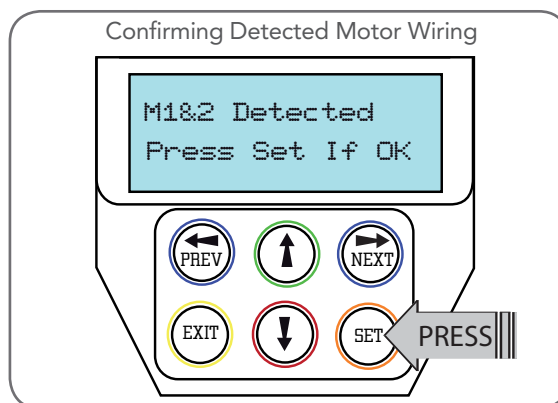

Fig H.3
- DCB-05V2 will now automatically detect if one or two motor are connected. If the correct number is displayed then press SET to confirm. Otherwise press EXIT and check the wiring **(Fig. H.3)**.